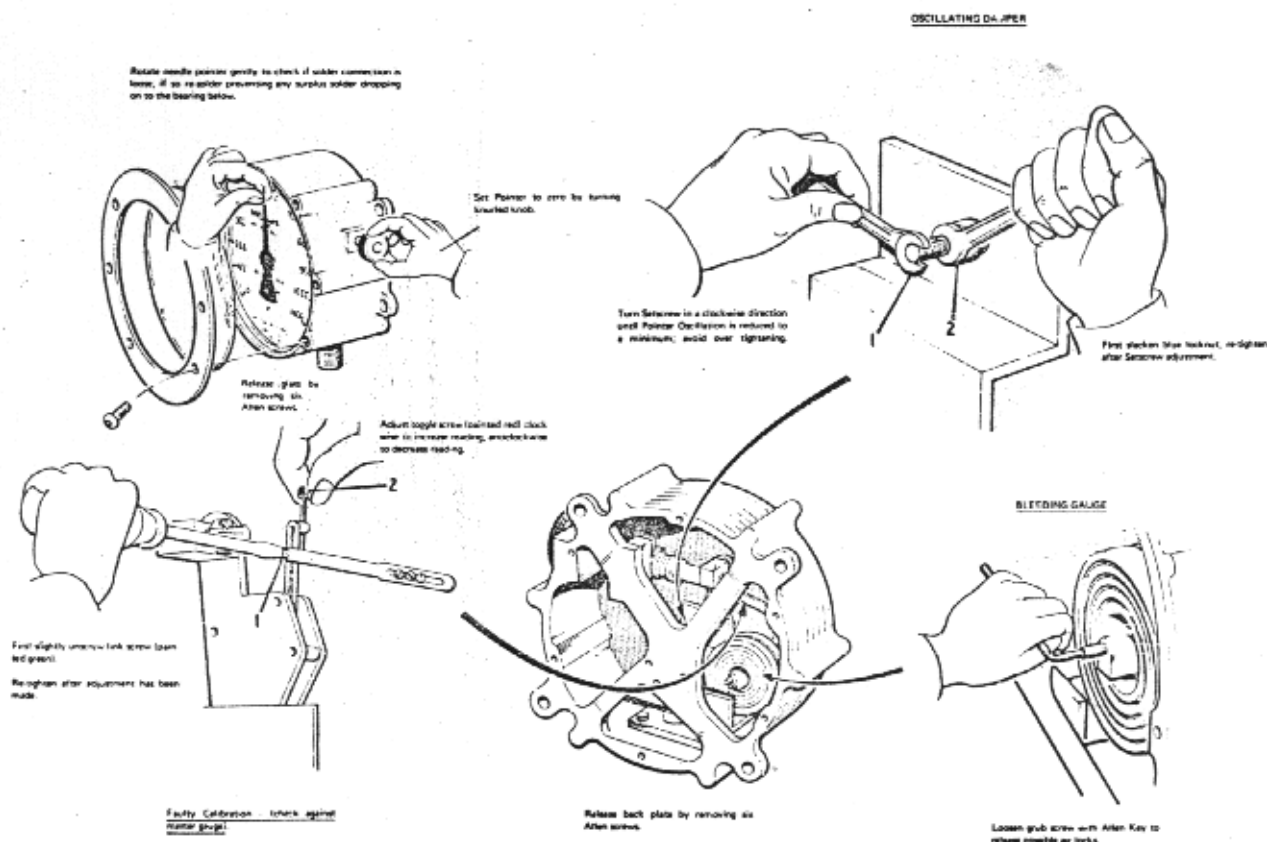

FIG. 1
Gauge Adjustment Fig. 1
If by any chance a loaded hopper is dropped on to the loadcell by accident, causing undue shock to the gauge, this could loosen the pointer needle which is soldered on to its spindle. If this happens, remove the gauge from the loadcell pipe and release the front glass. Rotate the needle pointer gently to check if the solder connection has become loose. As shown in Fig. 1. If so, re-solder carefully. To ensure correct position for re-soldering pointer. Set the zeroing knob at a mid-position, and solder the pointer back from zero, the combined weight of cradle and hopper. Make sure that surplus solder does not run into the small bearing behind the needle pointer.
If the gauge needle pointer should oscillate unduly, first remove the back plate, by removing six Allen screws. For identification purposes, the only parts requiring adjustment for oscillation are painted blue. Loosen the blue locknut (1), as shown in Fig. 1, and turn the hexagon headed screw (2) below in a clockwise direction, until the pointer oscillation is
If the calibration is found to be inaccurate, the pointer should be adjusted against a master gauge, as shown in Fig. 1. For identification purposes, the only parts requiring adjustment for calibration are painted red and green. First, slightly loosen link screw (1) painted green, then adjust knurled toggle screw (2) painted red, by hand. Turn clock-wise to accelerate the reading and anti-clockwise to decrease reading. This should be done on a gauge test rig or equivalent. After correct adjustment has been made, retighten link screw (1). Other screws must not be interfered with.
Due to a vacuum the gauge will invariably hold its quota of oil, but in any case, lay the gauge on its face and fix a right-angle adaptor to the oil inlet and fill with Wakefield Girling Brake and Clutch Fluid (crimson), shown in Fig. 8 open the bleed screw situated on the middle coil of the Bowden tube shown in Fig. 1. The weight of the fluid will expel any trace of air. Care should be taken to avoid oil dripping onto the back of the dial face. Ensure that the bleed screw is correctly tightened.
When the filling operation is complete, the gauge and loadcell may be refitted to the machine and tested with known weights, provided the adjusting screws in the gauge which control calibration have not been moved, the gauge should register correctly. A zeroing knob is provided on the side of the gauge, as shown in Fig. 1, this should be adjusted with the hopper empty and down on the loadcell. Check there is a clearance between the hopper and ground before zeroing.